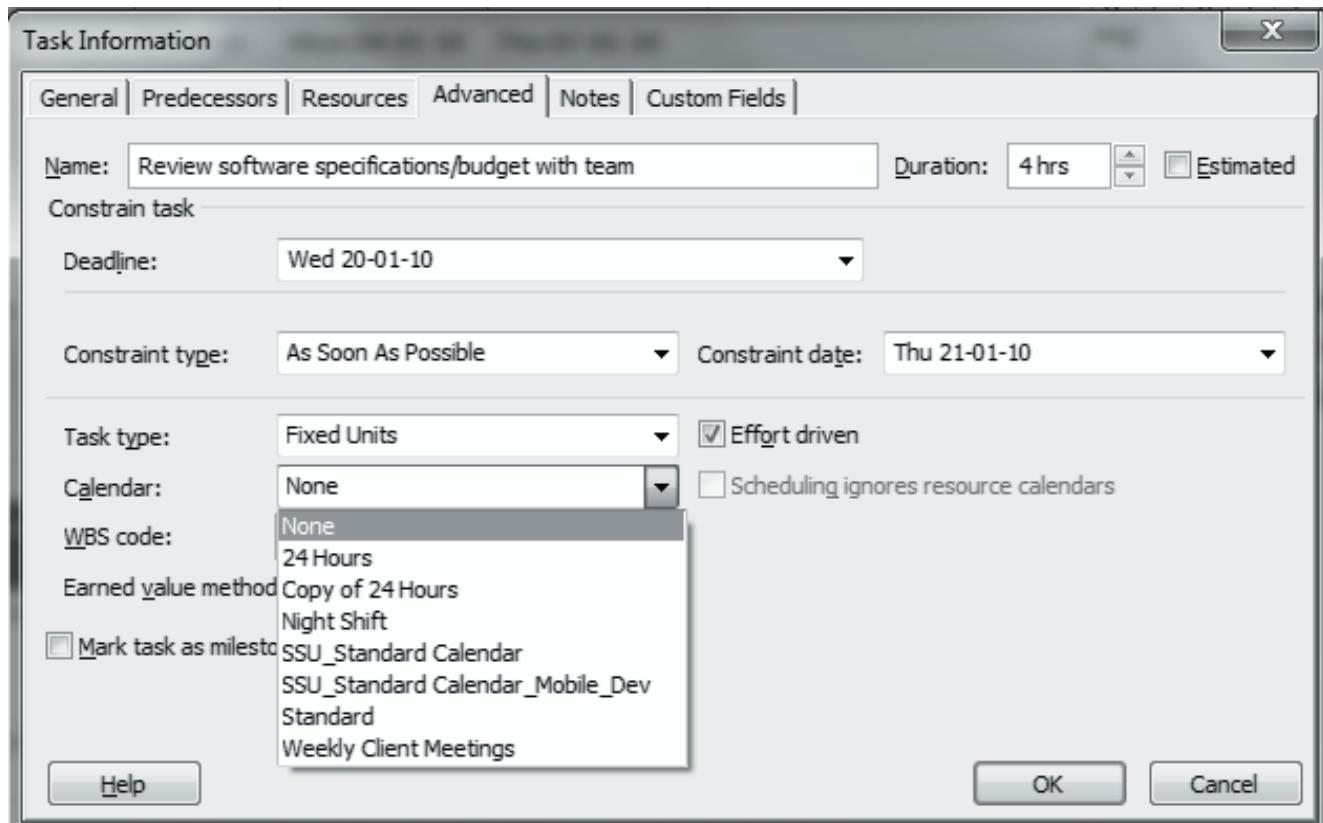

Figure 3.6: Advanced Tab in the Task Information Dialog Box
3. In this dialog box, click the **Advanced** tab and from the **Calendar** drop-down list, select the new calendar **Weekly Client Meetings** as shown in figure 3.6.